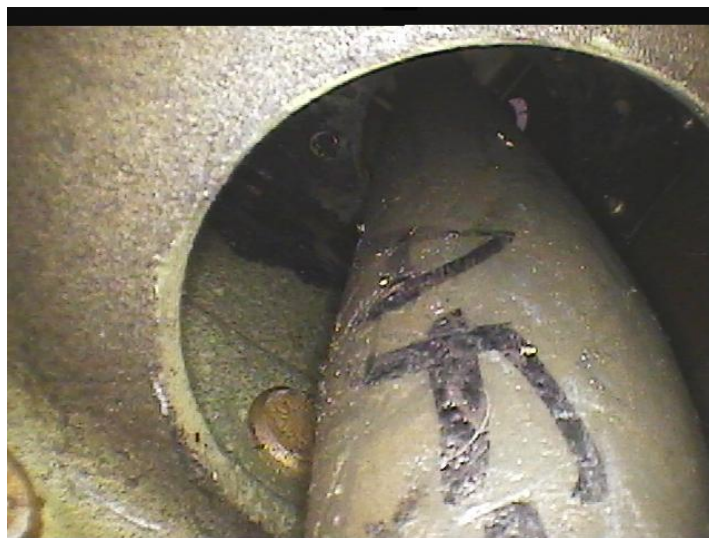

**Figure 8, P/N 206-031-204-5, Bulkhead (Cut-away)**
5. Carefully insert the bore scope probe into the access and inspect the cavity forward of the P/N 206-031-204-5, Bulkhead (Fig 8). Visually inspect for the correct installation of blind fasteners securing the forward pylon straps, in addition to the condition and security of the remaining structure.